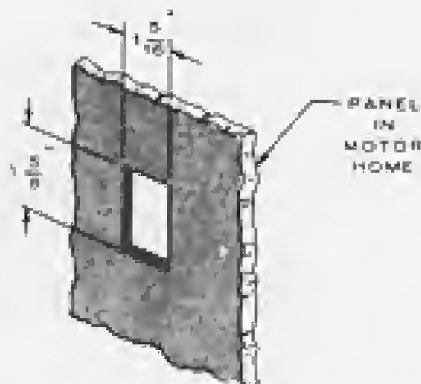

FIGURE 9. MOTOR HOME CUTOUT FOR 300-0985 STANDARD CONTROL PANEL
1. Select control location. Using Figure 9 or 10 as a guide, drill screw holes and cut hole to accommodate remote switch in dash panel.